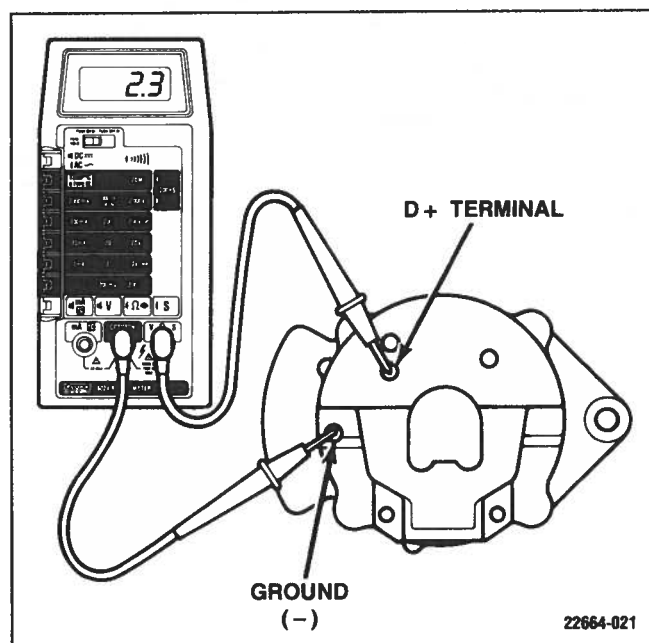

Figure 6-62. Regulator Voltage Check
2. With the ignition ON, connect the voltmeter to the indicator light (D+) terminal and ground (–) terminal (Figure 6-62). This will check voltage at the regulator. Voltage should measure between 1.5-3.0 V.